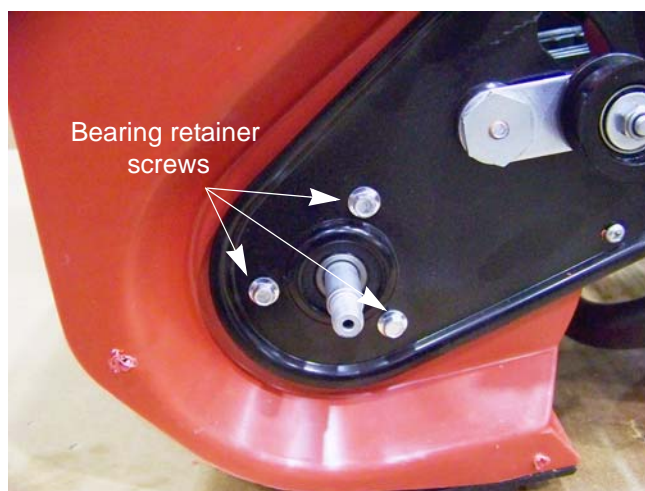

Figure 4.14
6. Remove the three bearing retainer screws using a 7mm wrench. See Figure 4.14.